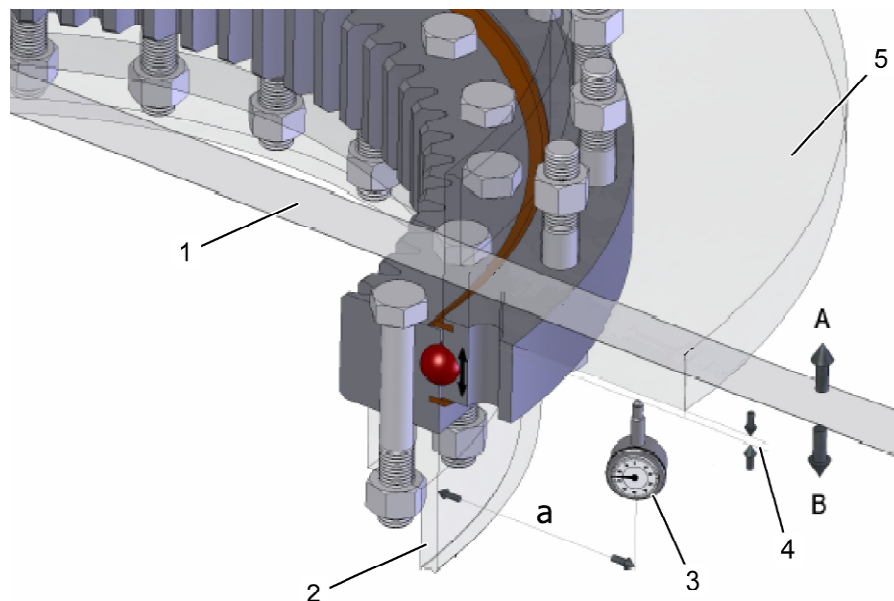

Fig. 32: Tilting clearance measurement arrangement
3. Attach the dial gauge as shown in Fig. 32.